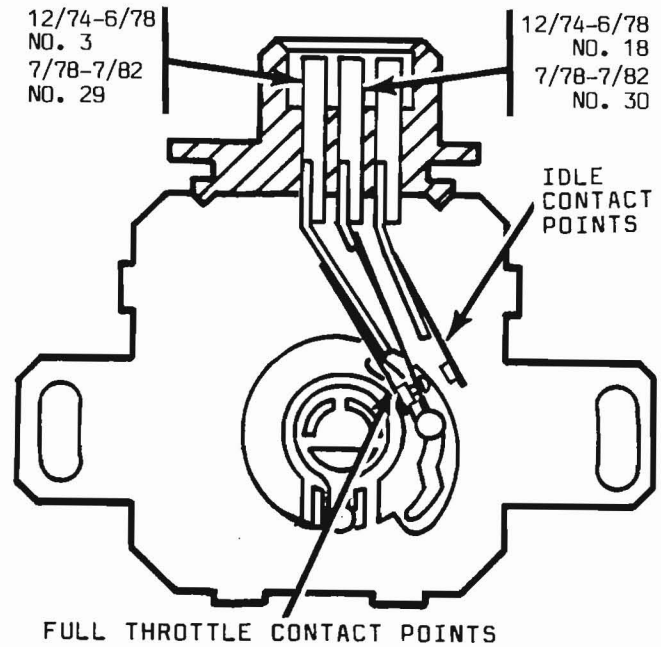

Figure 8
46. Remove the throttle switch harness connector and connect an ohmmeter or continuity tester to the left and center terminals of the throttle switch body. (Terminals 3 & 18 for 12/74-6/78 vehicles; 29 & 30 for 7/78-7/82 vehicles). See figure 8.